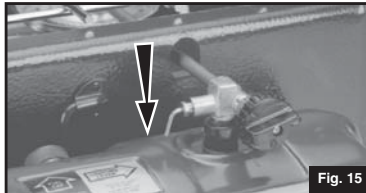

Fig. 15
- Wait one full minute then turn LIGHTING LEVER down. (Fig. 15)